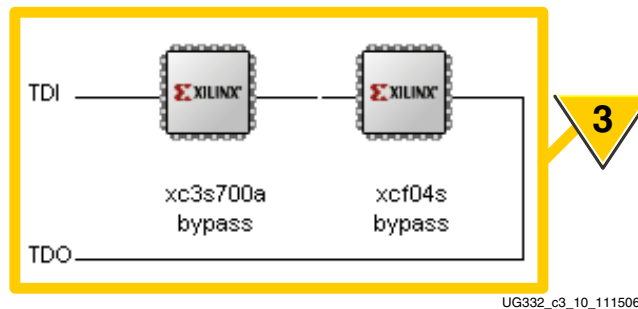

Figure 3-15: iMPACT Automatically Detects JTAG Chain
3. As shown in Figure 3-15, the iMPACT software automatically detects the JTAG chain, if so enabled. This example application is similar to that shown in Figure 3-1. The FPGA is an XC3S700A, followed in the chain by an XCF04S Platform Flash PROM.